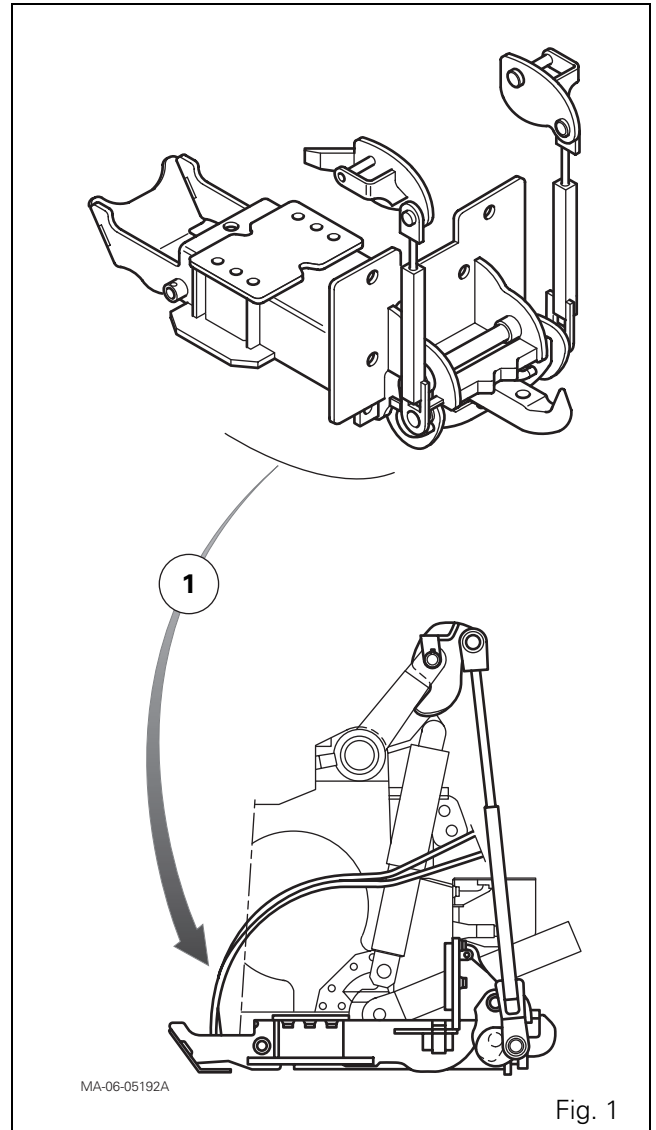
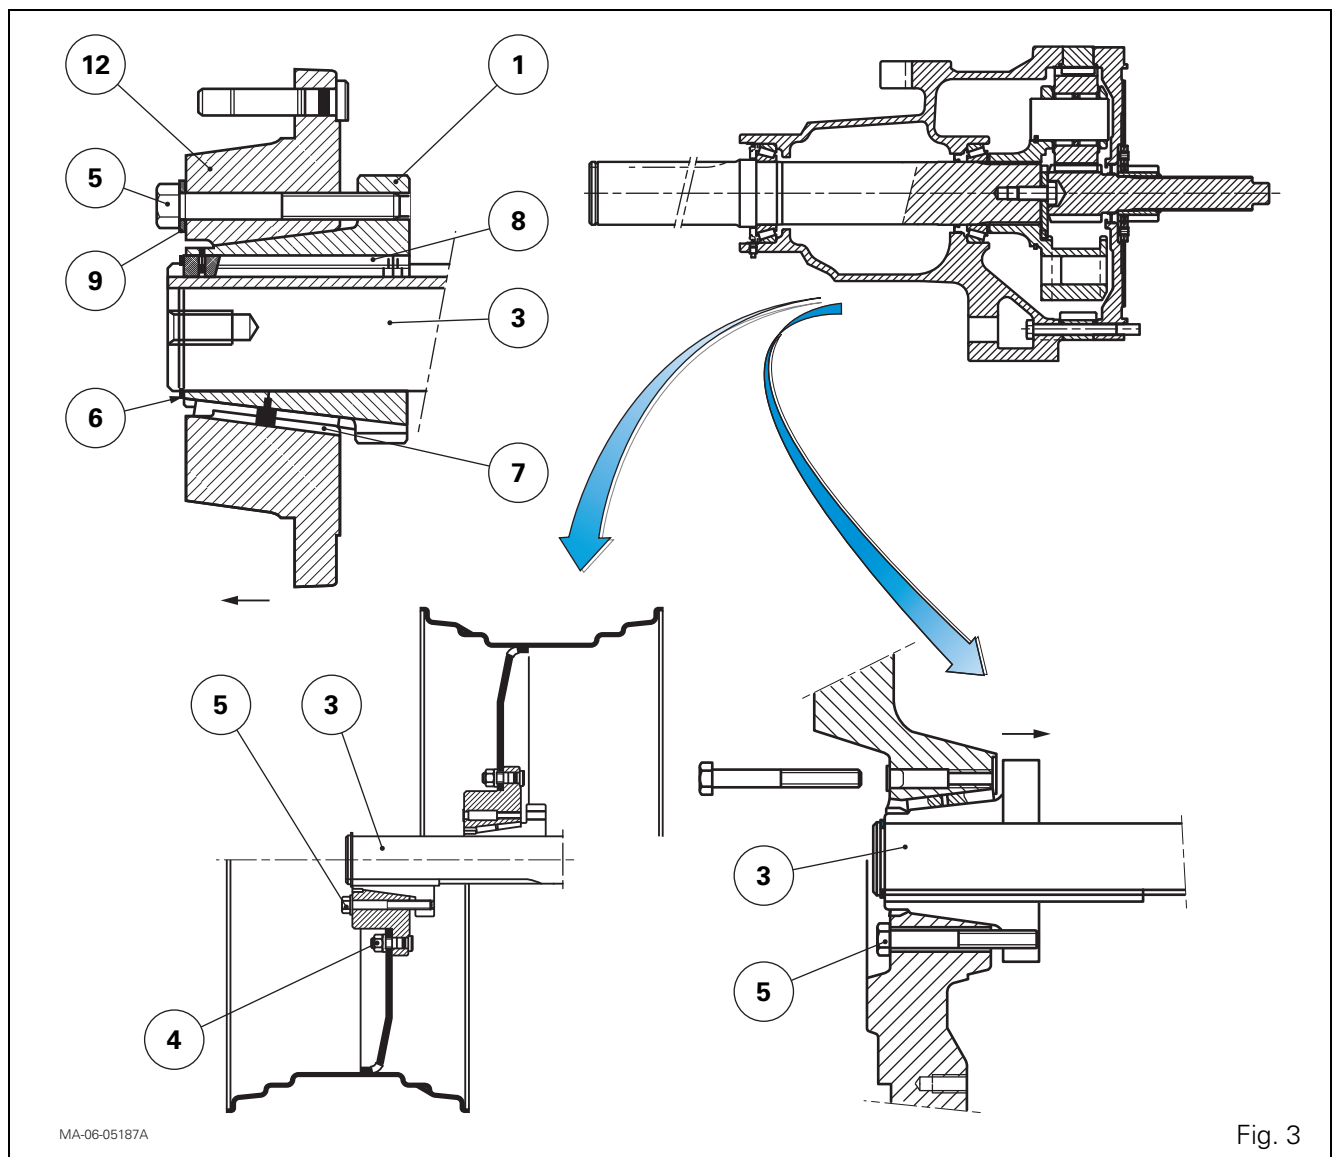

Fig. 1
Fig. 3
The Dromone auto-hitch (1) (Fig. 1) can be fitted on the GPA30 transmission. It completes the range of existing hitch supports.
It is possible to reuse the auxiliary spool valve when the ram is hydraulically isolated by closing the valve (1) (Fig. 3).
With the engine running and plate raised, open the valve (1) (Fig. 3). Check that the hitch is secured by moving the auxiliary spool valve lever into both positions (Fig. 3): the hitch must not extend beyond the mobile plate. If it does, investigate the cause of the problem.
Heavy Duty Sealed (HDE) trumpet housings	95 mm, Fig. 1
Fitting a hub on a 95 mm diameter axle shaft (Heavy Duty Sealed) (Fig. 1, Fig. 3)
Parts list (Fig. 3)
Tightening torques (Fig. 3)